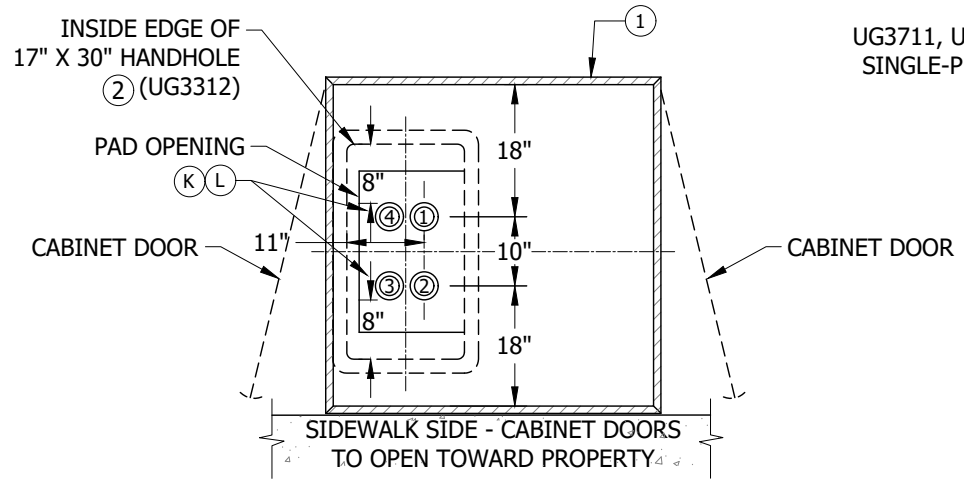

FIGURE 8
- K. THE MAXIMUM PRIMARY CONDUITS ALLOWED ARE ULTIMATE 4 RUNS OF 4-INCH CONDUIT AS SHOWN IN FIGURE 8.
- L. SET PAD LEVEL TO FINAL GRADE AND INSTALL EQUIPMENT GROUND. TERMINATE CONDUITS 3 INCHES ABOVE BOTTOM OF HANDHOLE. INSTALL CONDUITS AS SHOWN IN FIGURE 8, 9 AND 10.